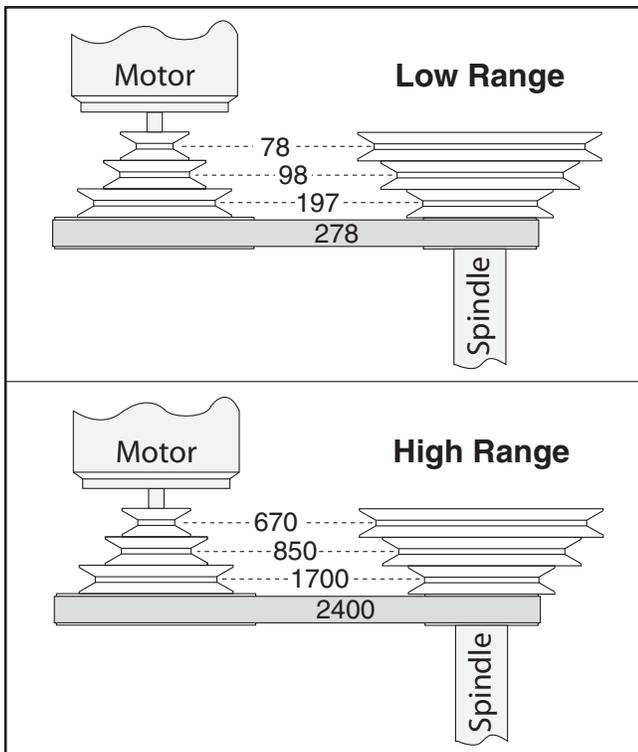

Figure 32. Model G9901/G9902 V-belt positioning for desired speed (RPM).
- Use the V-belt positions shown in **Figure 32** to set your mill to the correct RPM.